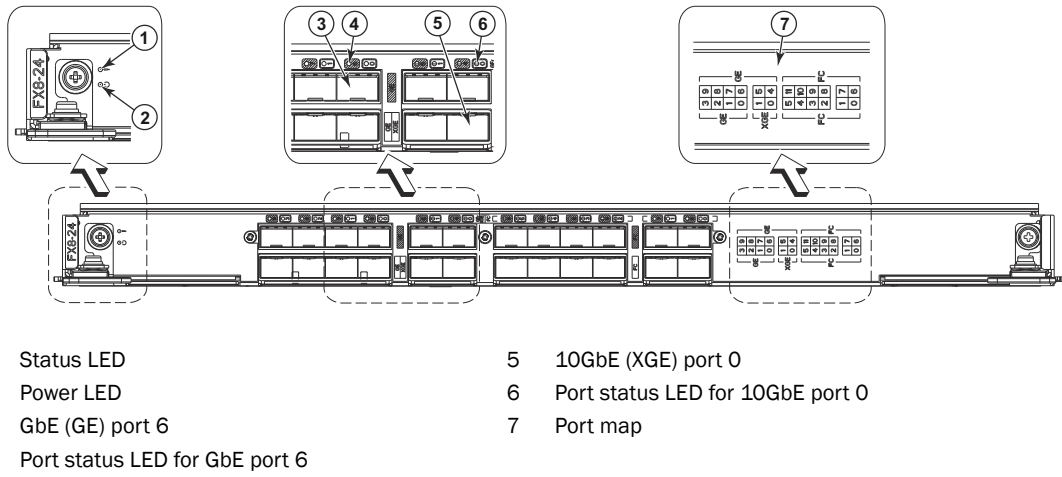

FIGURE 12 FX8-24 extension blade
- Figure 12 illustrates the FX8-24 extension blade.